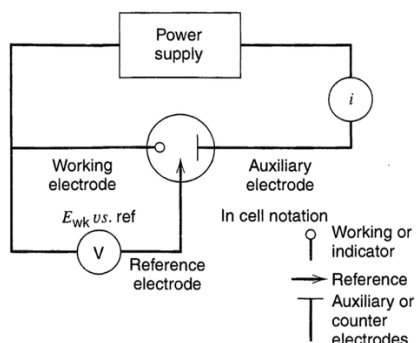

Figure 1. Three-electrode cell and notation for the different electrodes [1].
(RE) maintains a constant potential against which the working electrode is measured; **counter electrode or auxiliary electrode** (CE) completes the circuit by allowing a current to flow (Figure 1).